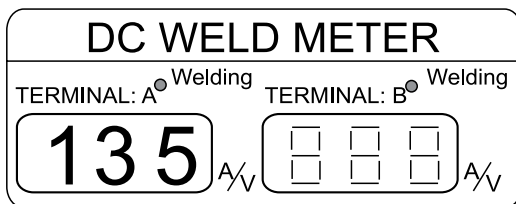

Figure 34. DC Weld Meter (135 Amps)
- The selected current (amps) will be displayed on the DC weld meter. The example shown in Figure 34 is for a constant current value of 135 amps.